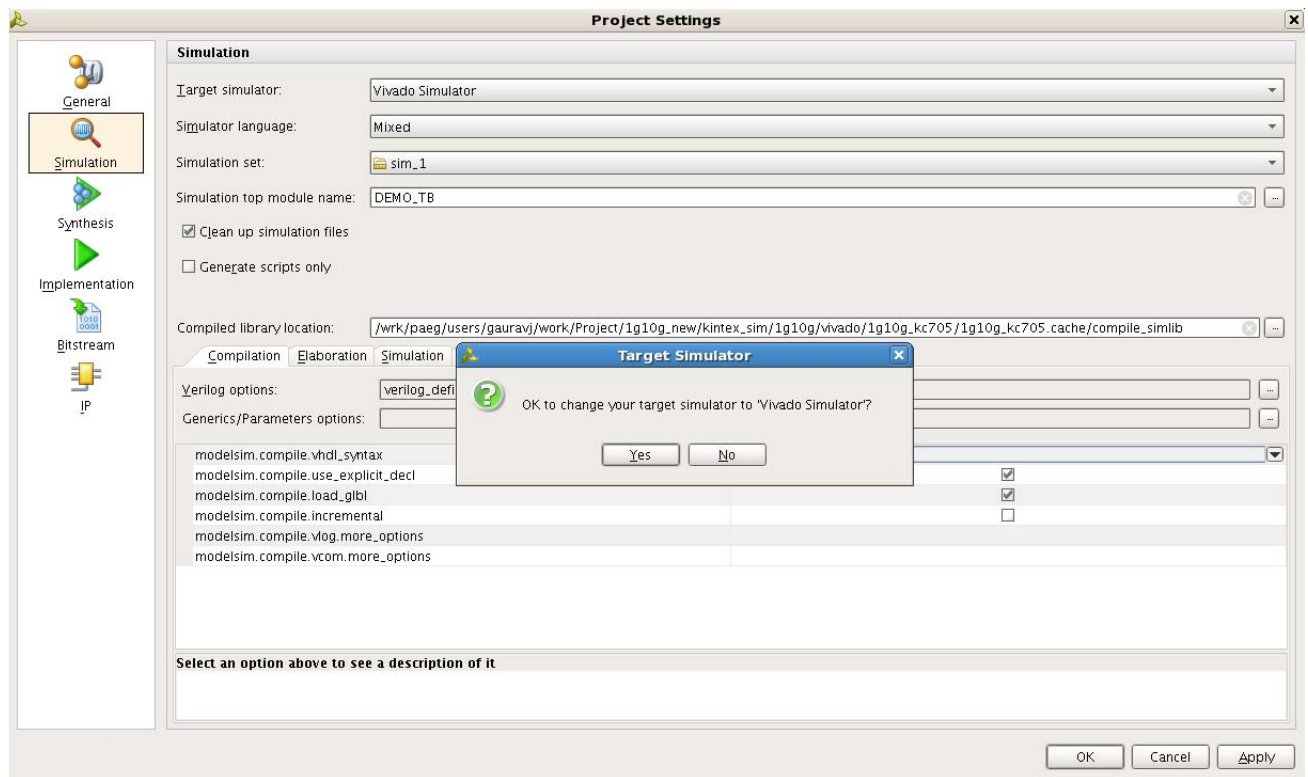

Figure 8: Selecting the Simulator
1. In the Flow Navigator Panel under Simulation, click **Simulation Settings** (Figure 8).